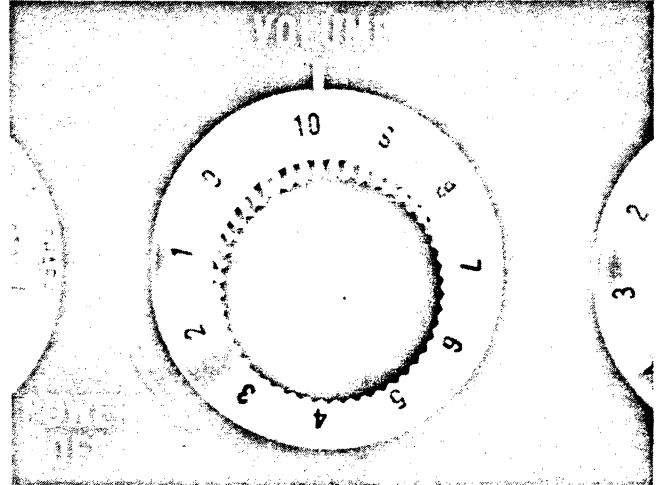

Figure 2. View showing Volume Control
Turn the VOLUME control to the left as far as possible. (See Fig. 2) This turns off the radio. Plug the power cord into the a-c outlet.
8. To control the volume, adjust the VOLUME control (See Fig. 2) by turning it to the right for a louder signal or to the left for a softer signal.